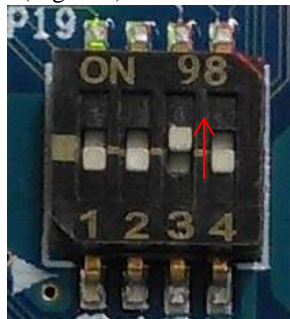

Fig.2-4 DIP-SW setting (Tester)
- (5) Tester side: Set DIP-SW3 from OFF to ON (Fig. 2-4)